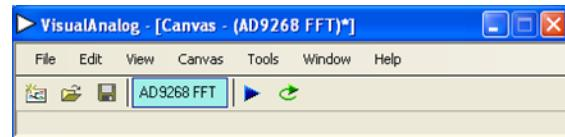
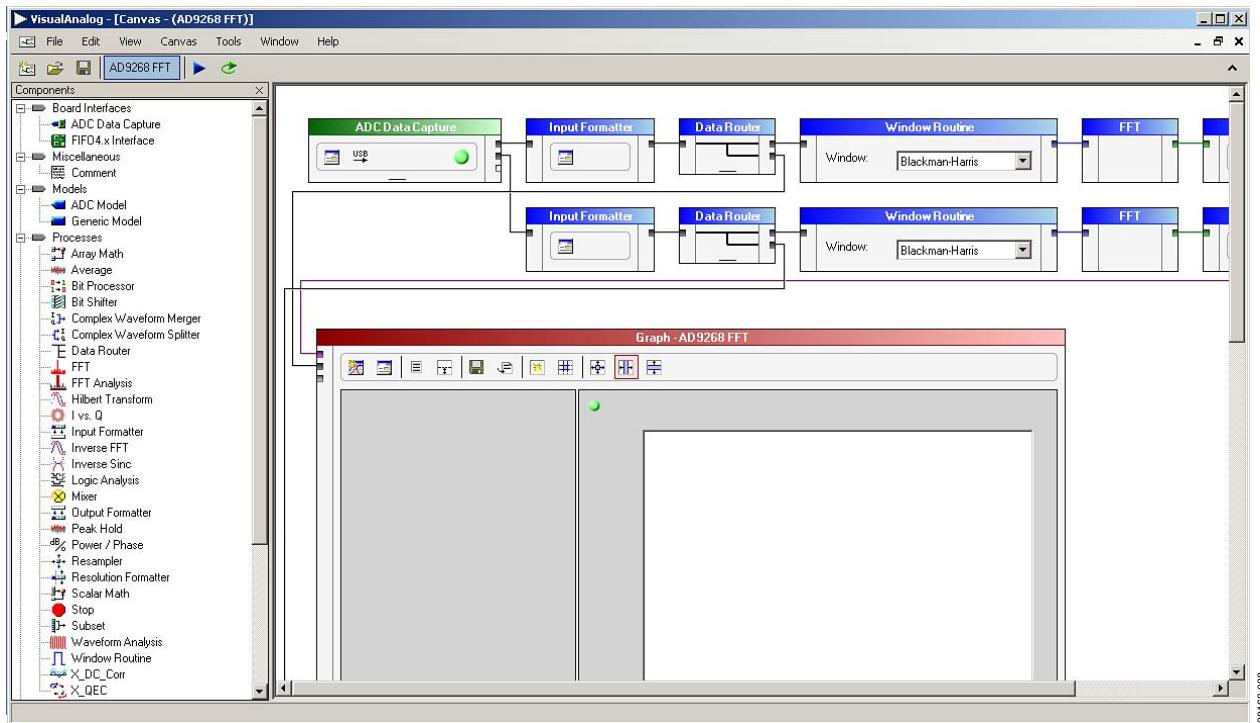

Figure 8. VisualAnalog Window Toolbar, Collapsed Display
Figure 9. VisualAnalog, Main Window
3. To change features to settings other than the default settings, click the **Expand Display** button, located on the bottom right corner of the window, to see what is shown in Figure 9. Detailed instructions for changing the features and capture settings can be found in the AN-905 Application Note, *VisualAnalog Converter Evaluation Tool Version 1.0 User Manual*. After the changes are made to the capture settings, click **Collapse Display** (see Figure 8).